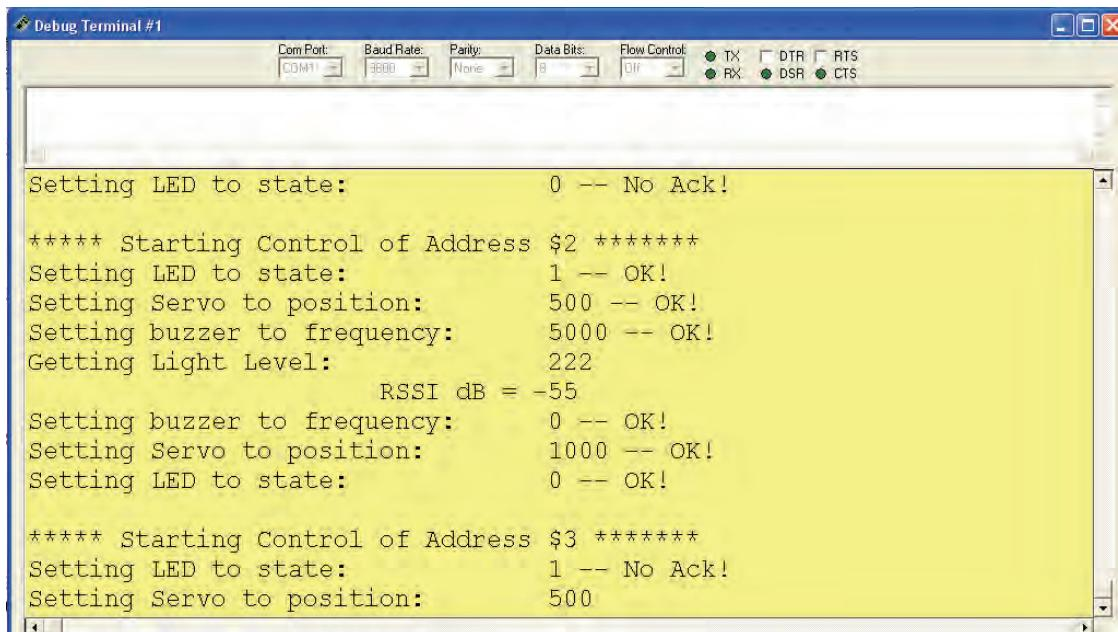

Figure 5-7: Automatic Polling Debug Terminal
- ✓ Using the Debug Terminal, monitor the polling as shown in Figure 5-7.